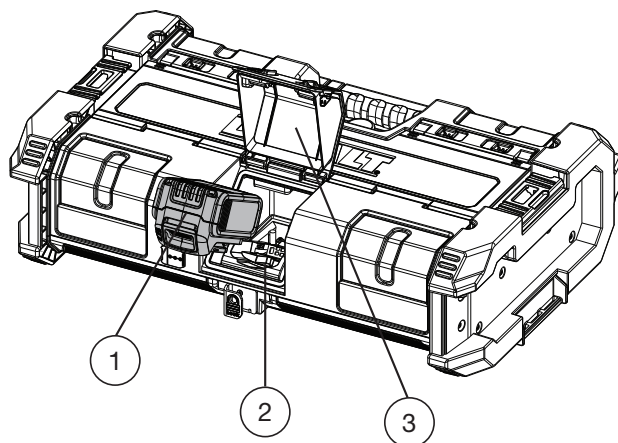

Figure 4. Battery Compartment
4. Insert the battery pack (not included) into the charger, making sure the pack is fully seated in the charger (see Figure 4). The battery indicator image will blink continuously, indicating that battery charging is in process.